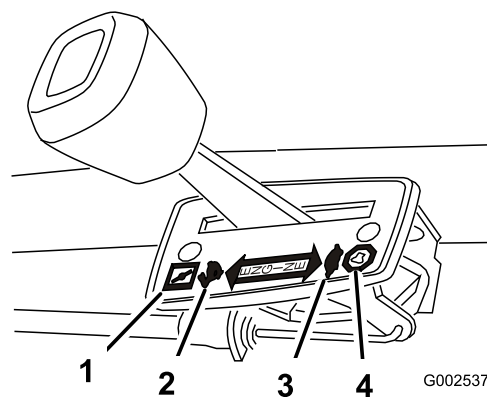

Figure 9
The throttle settings are shown in (Figure 9).
3. Move the throttle control lever to the Choke position (Figure 9).